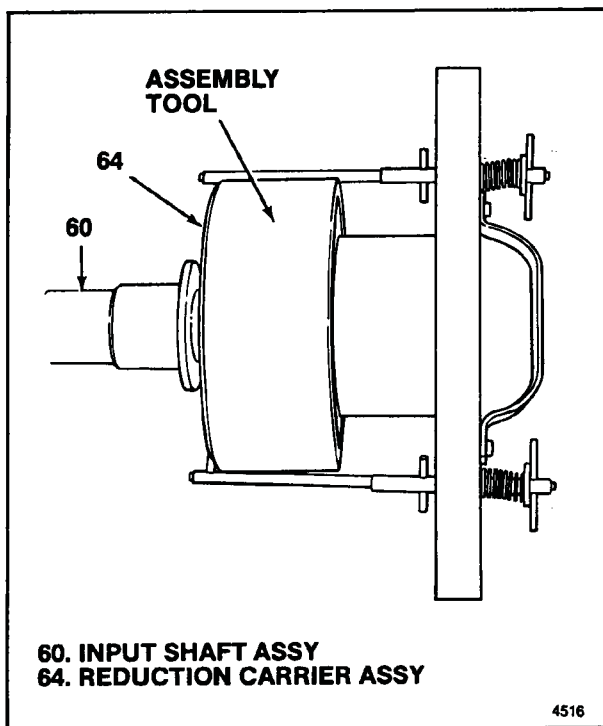

Figure 5-6. Holding Parts Together With Assembly Tool
- Lay planet and gear assembly (73) on work bench with open side up, splined end down.
- Insert one thrust washer (71) into planet and gear assembly (73) with washer tabs between gears. Then, rotate thrust washer until its tabs line up with notches in planet and gear assembly and drop into place.
- Install sun gear (72) with side marked at disassembly up. Rotate gears of planet and gear assembly (73) as required until sun gear is fully meshed and resting against thrust washer (71) previously installed.
- Apply petrolatum to face of remaining thrust washer (71) to hold it in place and install in shift hub (70) with washer tabs in hub notches. Install shift hub in planet and gear assembly so that notch on hub flange aligns with that in planet and gear assembly. The two notches will form a T shaped recess. Install pinion cage key (69) in this recess.
- Retain shift hub (70) in planet and gear assembly (73) with snap ring (68).
f. Slide ring gear plate (67) into groove in OD of shift hub (70). Make sure plate goes into narrow groove, not the wider groove for shift fork.
g. Place ring gear (66) on two 3/8 in. (9.5 mm) spacers on work bench with snap ring groove up. Lower planet and gear assembly and assembled parts (67 through 73) into ring gear. Rotate planet and gear assembly (67) to align gear teeth and ring gear plate (67) to align its teeth with 10 of those in ring gear.
h. If removed, press in cup plug (62) to bottom in input shaft (63). Press in new bushing (61) until its outside end is flush with bottom of chamfer in input shaft (63).
i. Install input shaft assembly (60) into reduction carrier assembly (64). Install assembly tool T-13-45-001 as shown in figure 5-6 and tighten hand knobs securely to hold assembly in neutral and together for installation later.